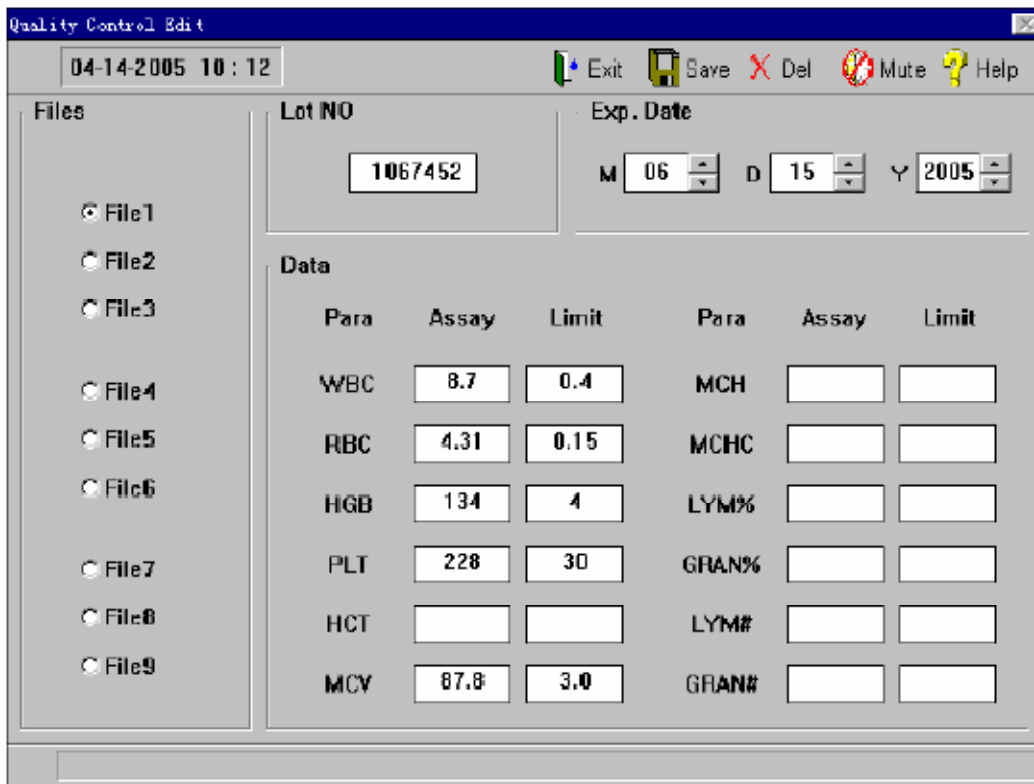

Figure 4-1
- a) In the blood cell analyzer window, press right key of the mouse, pops up the menu. Select "**QC Edit**" in the menu. The instrument enters quality control edit window, as shown in figure 4-1.